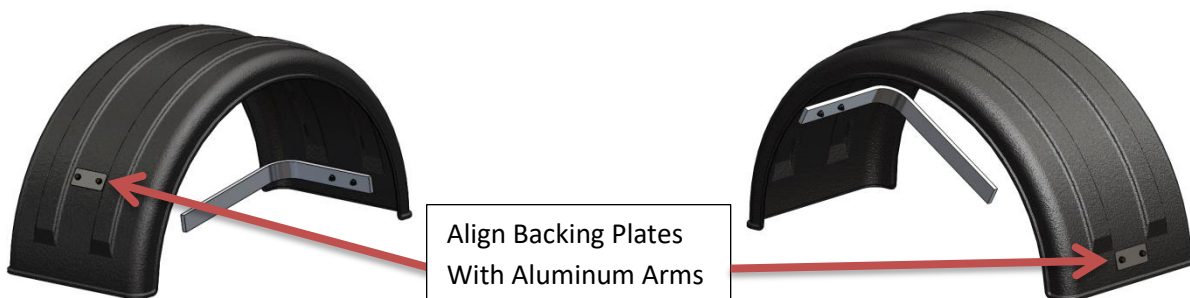

Figure 13 - Backing Plate Installation Detail
18. Attach the fender to the aluminum arms and backing plates as shown in Figure 13.